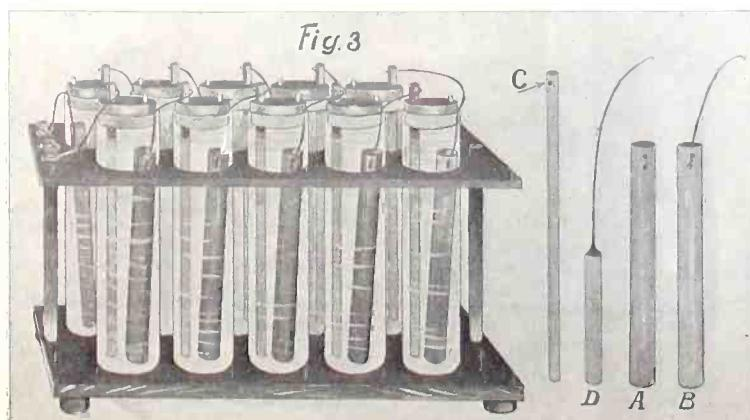

Fig. 3
10. The DeLaRue battery is one in which the active solution is ammonium chloride and is composed of 23 parts of ammonium chloride to 1,000 parts of water. The depolarizing solution is silver chloride. The positive plate is zinc and the negative plate is pure silver. The construction of a type of this battery is shown in Fig. 3. C is the zinc plate punched with a hole at the top so as to pass a wire through for connection with the silver plate, which is next line and